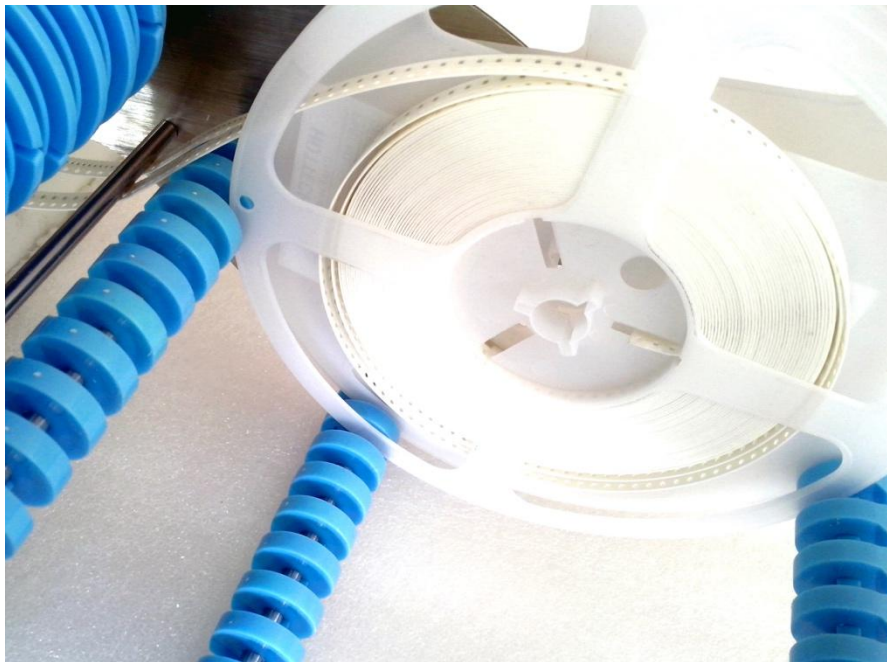

Figure 16.1. Image of tape reel on 3 disks, with tape threaded under rod.
- i. If the tape is on a reel, place it on the three disks, with the tape feed and cover film on the top. See Fig. 16.1 below.